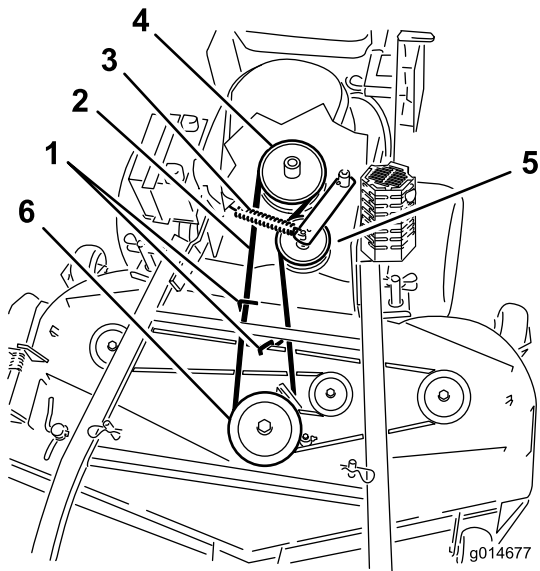

Figure 52
6. Roll the belt off the center pulley on the mower deck (Figure 52).
7. Remove the belt from the engine pulley and the spring loaded idler pulley (Figure 52).
8. Install the new belt onto the engine pulley and spring loaded idler pulley (Figure 52).
- Roll the belt onto the center pulley on the mower deck (Figure 52).
- Adjust the belt guide an 3 mm (1/8 inch) from the belt for 48 inch mower decks (Figure 52).